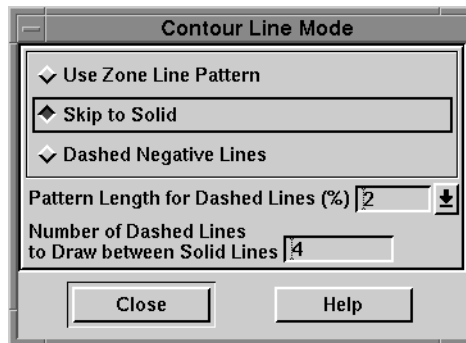

Figure 11-5. The Contour Line Mode dialog.
1. From the Field menu, choose Contour Line Mode. The Contour Line Mode dialog appears, as shown in Figure 11-5.